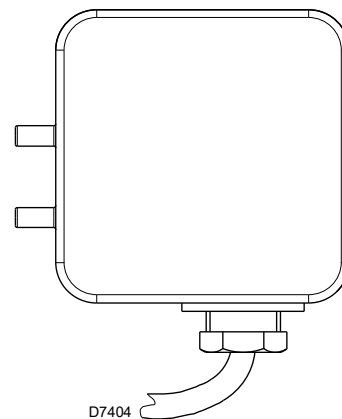

Fig. 25
- Adjust the air pressure switch (Fig. 25) to the start of the scale.
Adjust the air pressure switch (Fig. 25) after performing all other burner adjustments with the air pressure switch set to the start of the scale. With the burner function at the required output, turn the knob slowly in a clockwise direction until burner lockout. Then turn the knob anticlockwise to an extent that is around 20% of the adjusted value and then check that the burner starts up properly. If the burner locks out again turn the knob slightly in an anticlockwise direction.